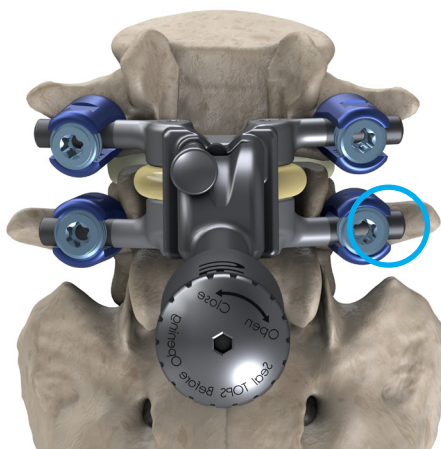

Figure 39: Verify that the crossbar extends laterally at least 2 mm beyond all four pedicle screws
**NOTE:** Verify that the TOPS Motion Implant's arms extend laterally at least 2 mm beyond all four pedicle screws (Figure 39). In case there is not a 2mm minimum, remove the TOPS implant and replace it with the next size up of the TOPS Motion Implant length. Be sure to repeat all of the TOPS preparation steps in **Section G "TOPS Motion Implant Implantation"**.